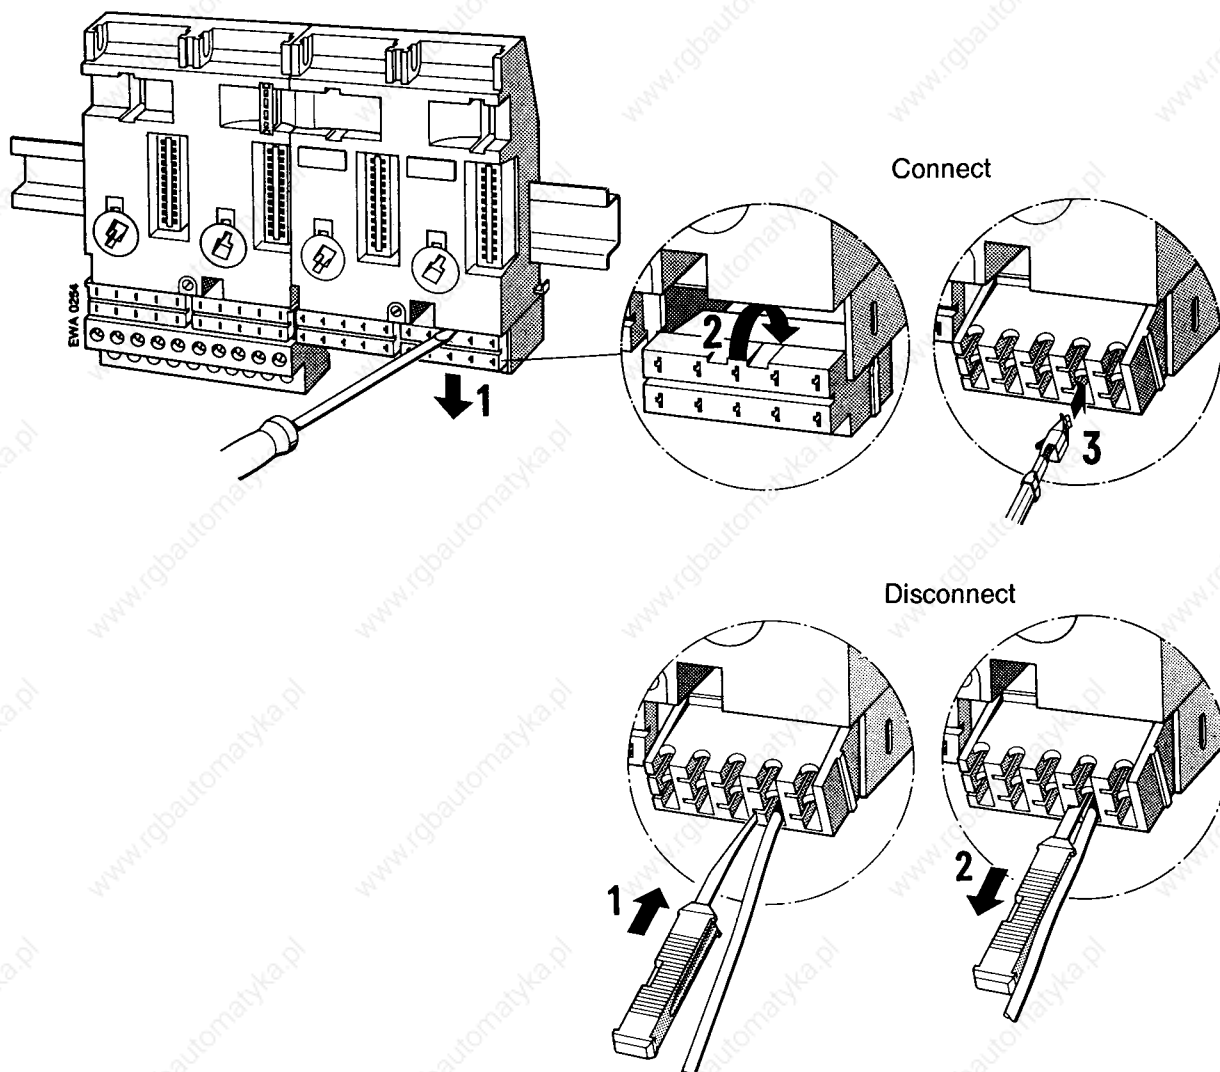

**Figure 3-16. Connecting and Disconnecting Crimp Snap-In Contact**
### How to Connect the Contact to the Terminal Block (see Figure 3-16)
- ▶ Position the terminal block as is shown in Figure 3-16.